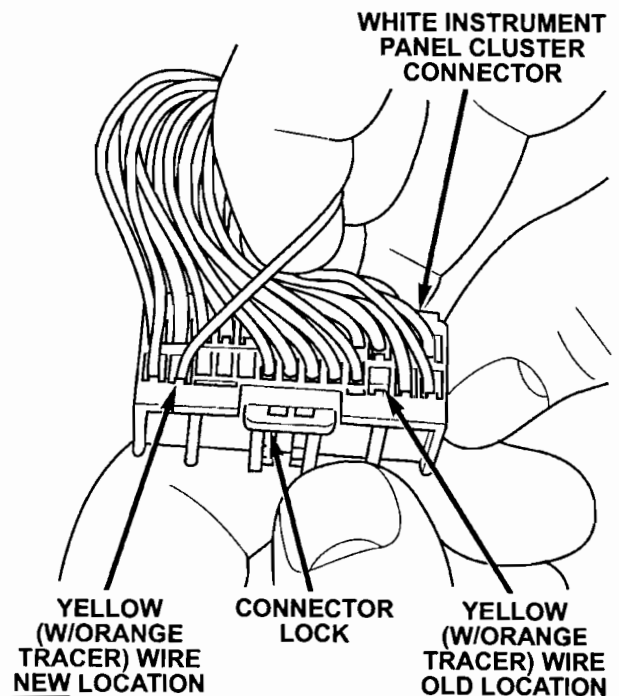

Figure 6
d. Install the yellow (w/orange tracer) wire into cavity C2 of the white instrument panel electrical connector (Figure 6). Pull back slightly on the wire to ensure the primary lock is engaged.